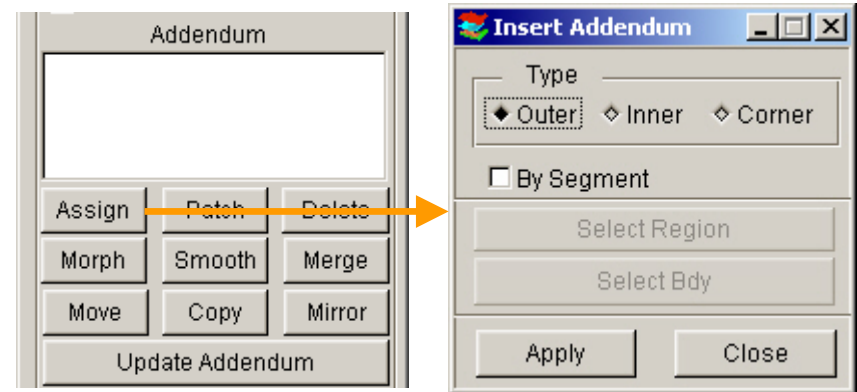

Figure 4.22
- Click **Assign** (Addendum) (See Figure 4.22)